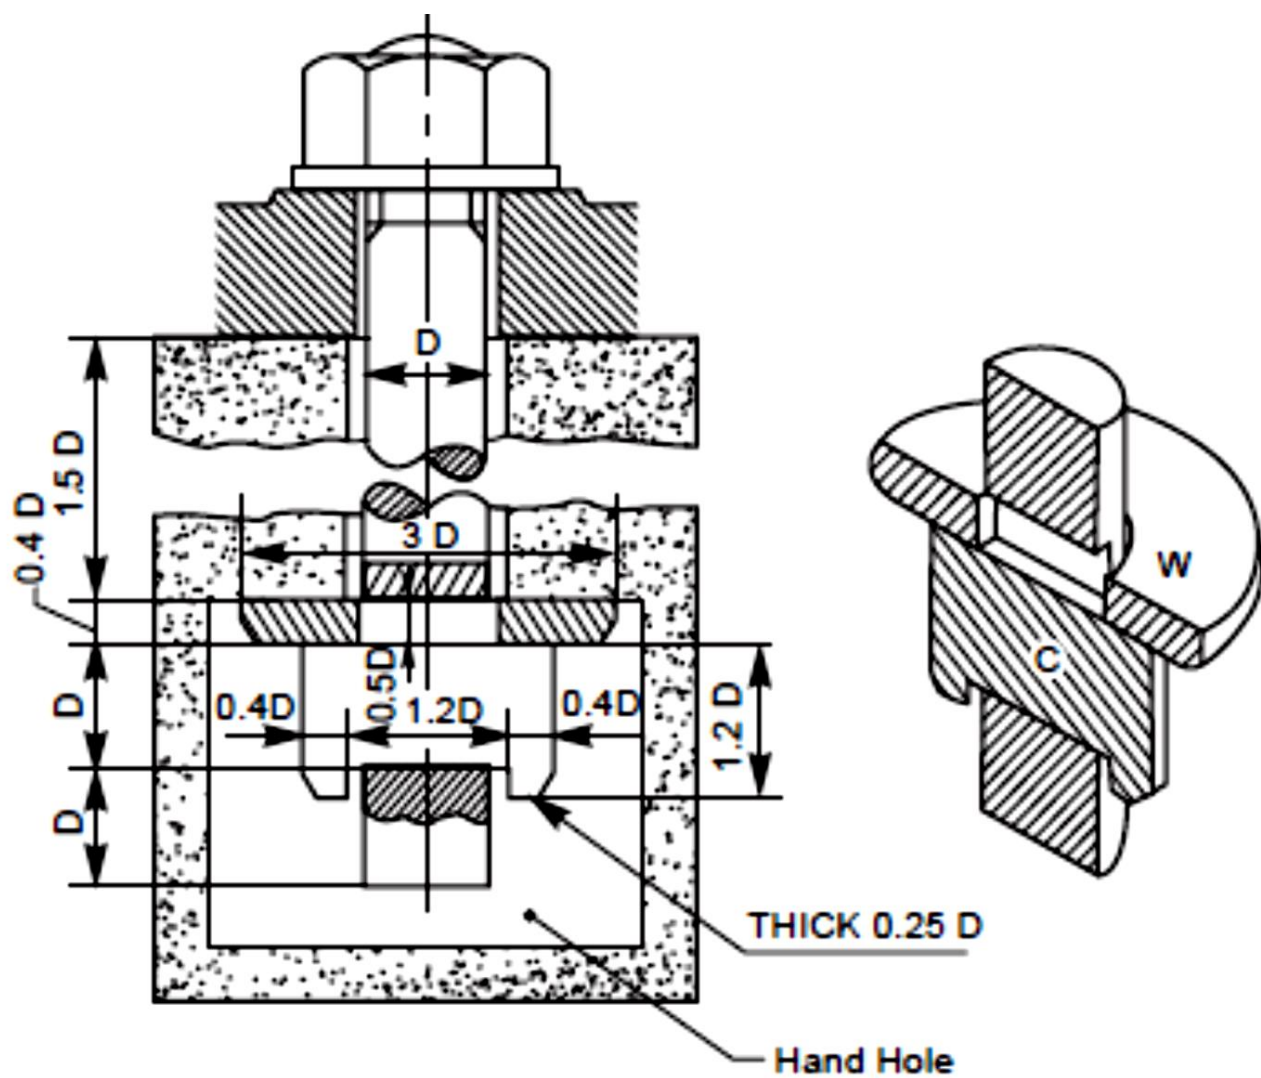

Fig. 5.40 Cotter foundation bolt
It is used for fixing heavy machines. It has a rectangular slot at its bottom end, to receive a cotter. For putting the bolts in position, the foundation bed is first made, providing holes for inserting cotters. Figure 5.40 shows a cotter foundation bolt in position. A cast iron washer (W) placed as shown, provides bearing surface for the cotter (C).